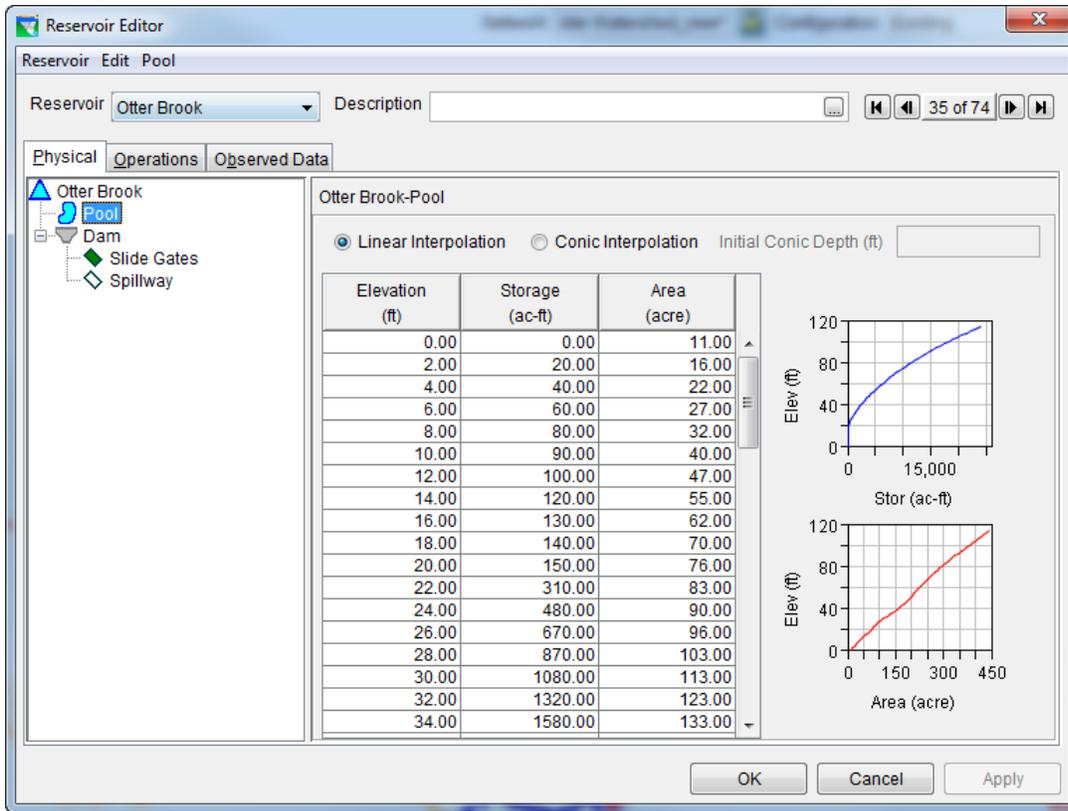
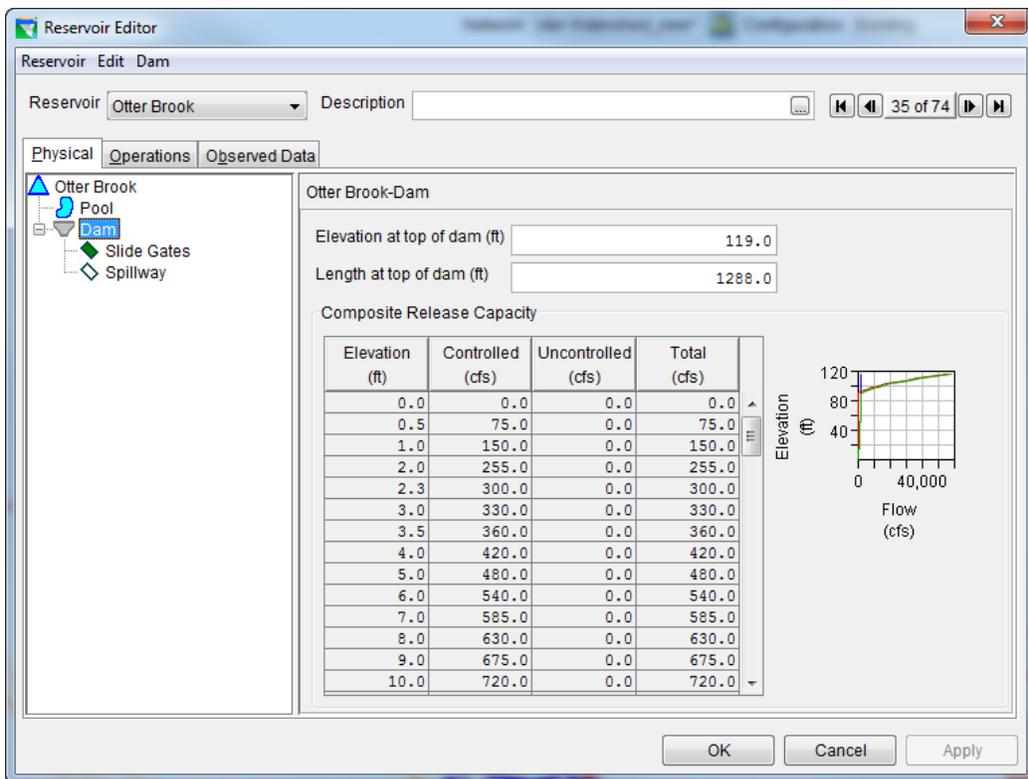

Figure 3: Reservoir Editor: Physical Tab -- Pool
Figure 4: Reservoir Editor: Physical Tab -- Dam
The physical characteristics of the reservoir are separated between the Pool and the Dam in the HEC-ResSim model. The elevation-storage-area defines the pool as shown in Figure 377. The dam consists of two types of outlets: (1) controlled outlet, (2) uncontrolled spillway as shown in Figure 4.
The physical characteristics of the reservoir are separated between the Pool and the Dam in the HEC-ResSim model. The elevation-storage-area defines the pool as shown in Figure 3. The dam consists of two types of outlets: (1) controlled slide gates, and (2) uncontrolled spillway, as shown in Figure 4. All physical and operations data were provided by US Army Corps New England District, through both a previously created ResSim model and the Reservoir Regulation Team website78.